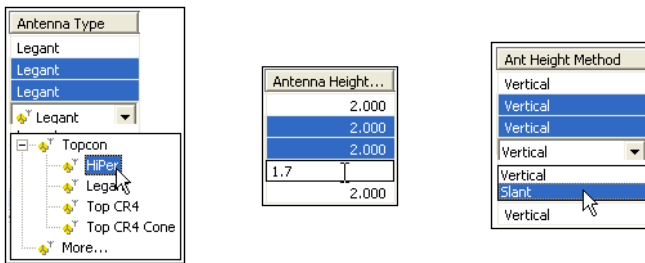

Figure 5-2. Editable Antenna Cells in Tabular View
- Click a highlighted cell (or press **F2**) and edit the desired information (Figure 5-2).